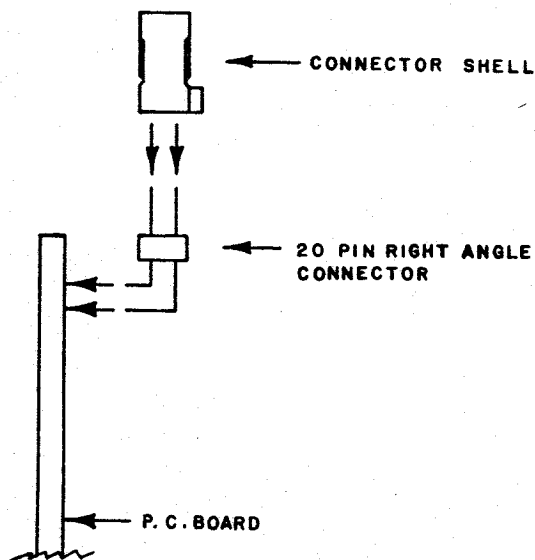

FIGURE 3
- [ ] Install and solder the 20 pin right-angle connector at the upper left corner of the board. Position the connector such that the side with the 90 degree bend is soldered to the PC board. See Figure 3 for proper orientation.